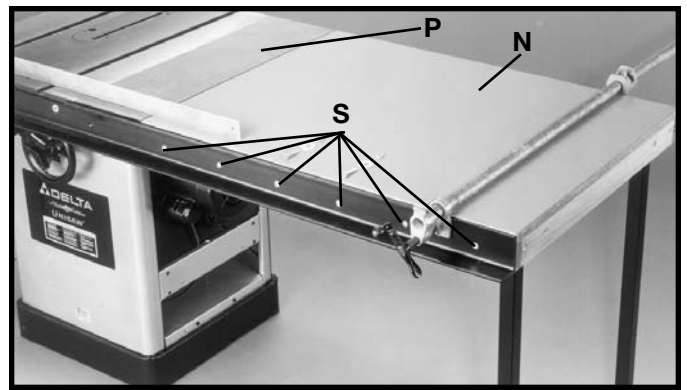
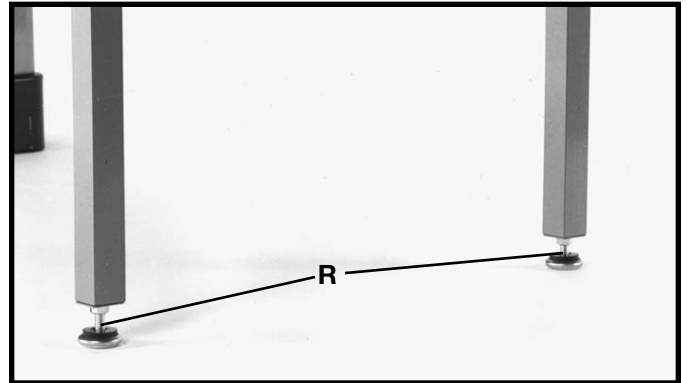

Fig. 100
Fig. 101
1. Place table assembly (N) Fig. 100, in position between the two rails, as shown. Make sure end of table (N) is flush against extension wing (P). Using a straight edge make sure table (N) is in the same plane and level with saw table (P). Lightly tap table up or down and adjust leveling screws (R) Fig. 101, in bottom of legs to accomplish this. When the table (N) Fig. 100, is level and in the same plane with saw table (P), drill 1/4" through holes (S) Fig. 100 through the front and rear of the extension table using the holes provided in rails as template.